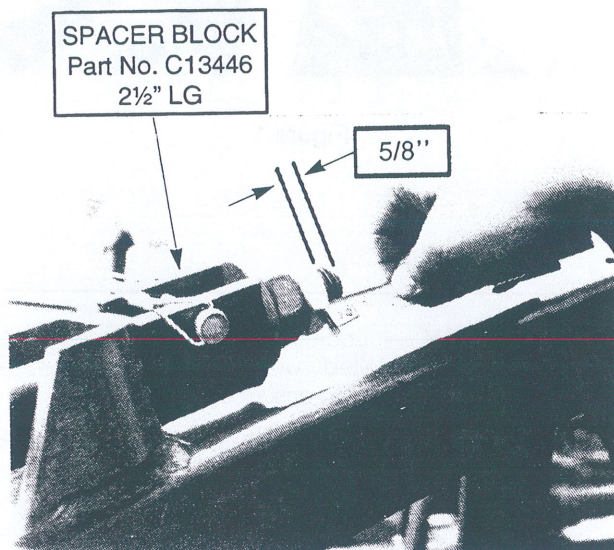

Figure 3
- (b) With spacer block in working position on the main frame gauge wheel, tighten the nut on the adjustment rod so that 5/8" of rod is past the Jam nut. See Figure 3.